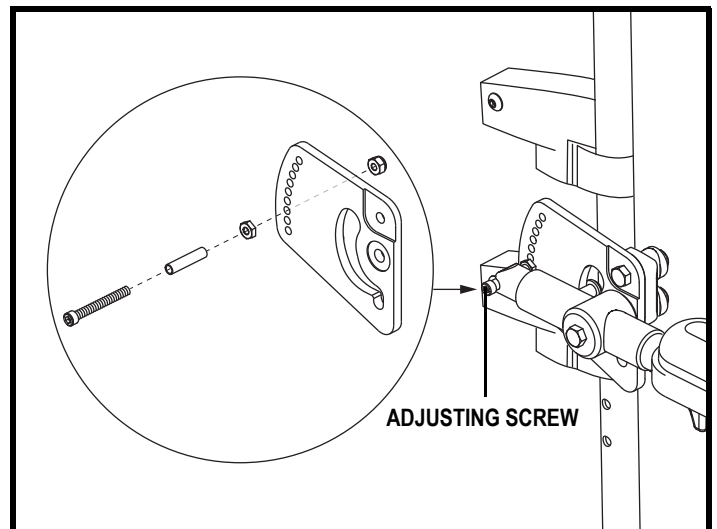

Figure 36. Latching Flip-up Armrest Angle Adjustment
2. Remove the adjusting screw. See figure 36.